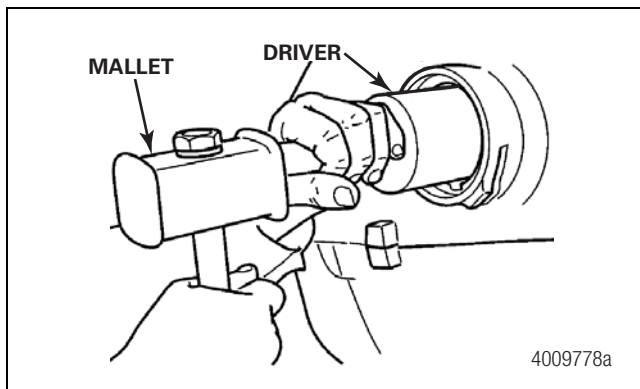

Figure 5.5
4. Use an appropriate driver and mallet to install the inner bearing cup. Figure 5.5.